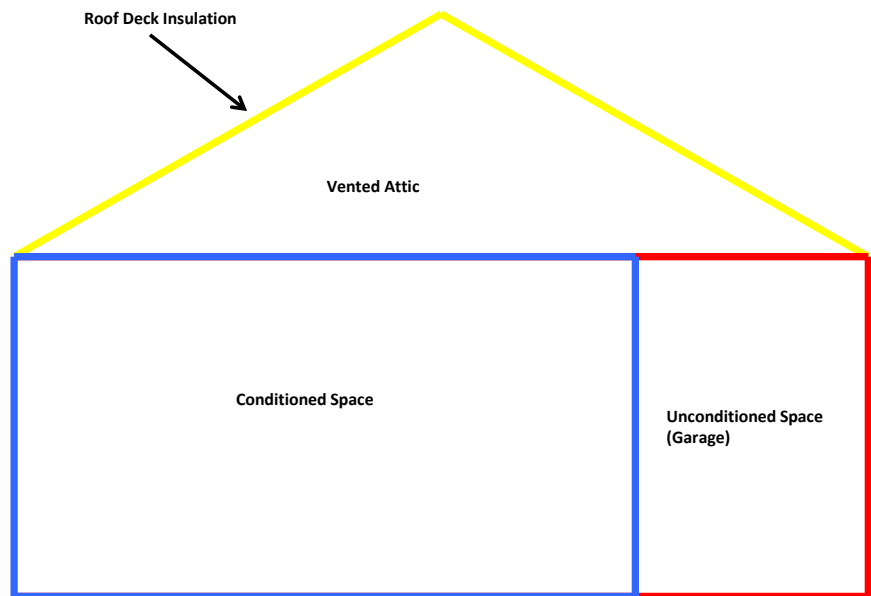

Figure 3 - House with attic insulation extending over conditioned and unconditioned spaces
1. If the attic is an open or undivided space, then the entire roof should be insulated. This includes portions of the roof over an unconditioned space such as a garage. This is illustrated in Figure 3.